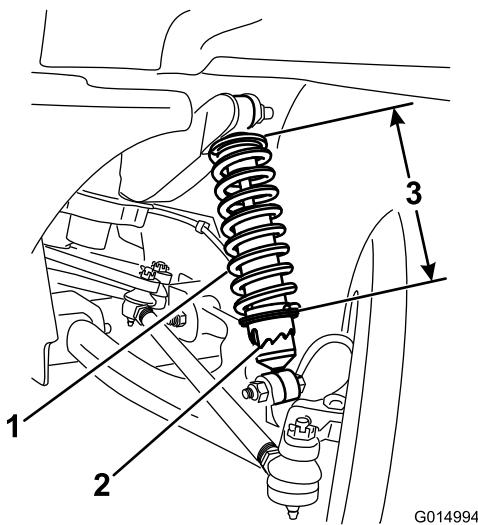

Figure 42
3. Using tool Toro 6010, rotate the collar on the shock absorber to change the length of the spring (Figure 42).